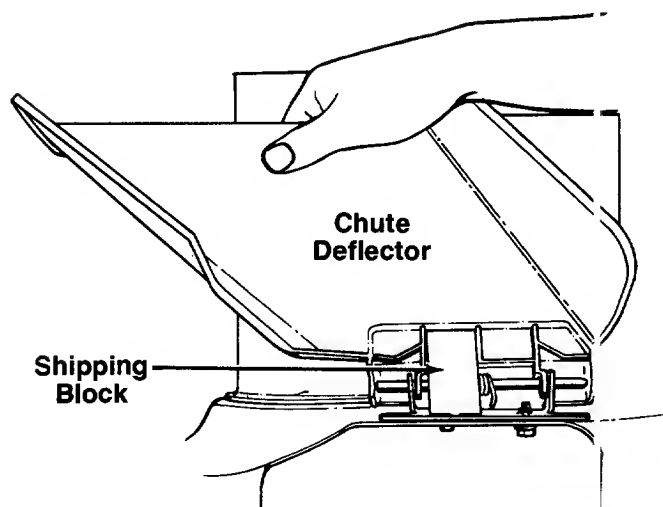

FIGURE 11.
1. The chute deflector on your mower is held in an upright position by a block for shipping purposes only. This shipping block must be removed and discarded before the mower is put into operation. See figure 11.